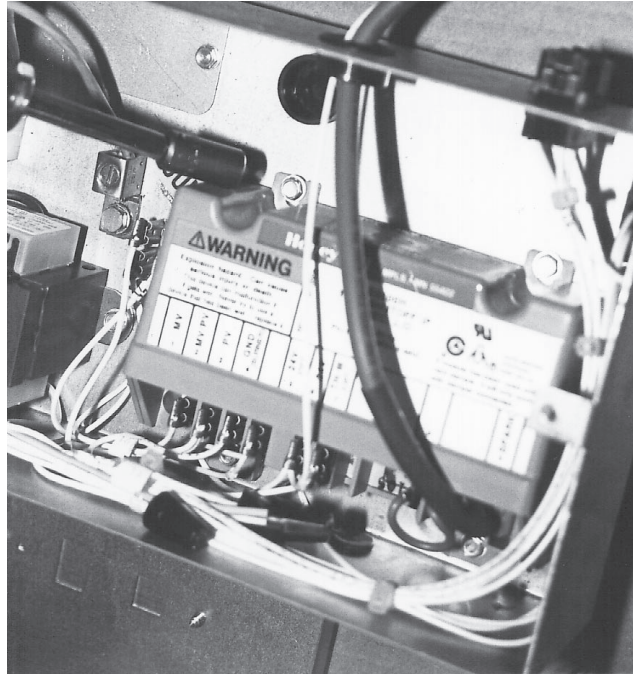

Fig. 83
4. With a 1/4" socket, remove (4) screws holding the module to the supply box. (Fig. 83)